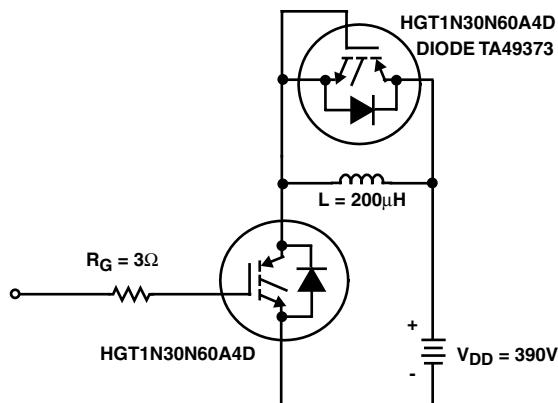

FIGURE 24. INDUCTIVE SWITCHING TEST CIRCUIT
2. Values for two Turn-On loss conditions are shown for the convenience of the circuit designer.  $E_{ON1}$  is the turn-on loss of the IGBT only.  $E_{ON2}$  is the turn-on loss when a typical diode is used in the test circuit and the diode is at the same  $T_J$  as the IGBT. The diode type is specified in Figure 24.